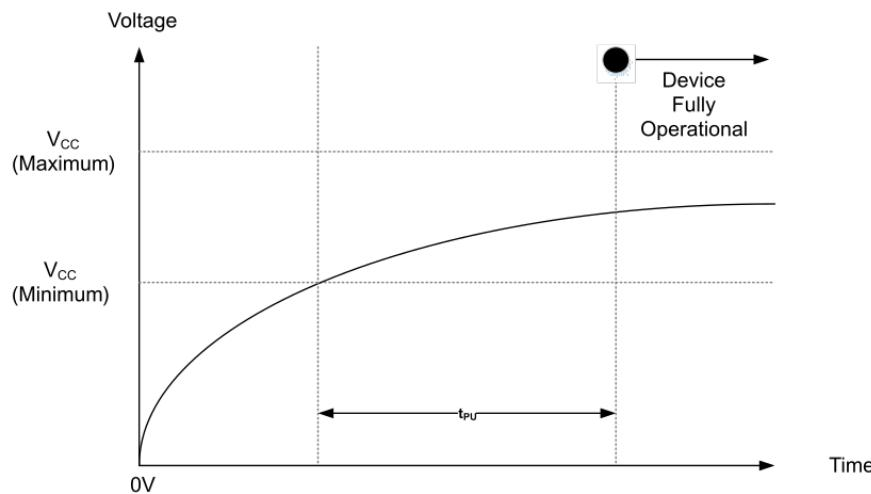

Figure 5: Power-Up Behavior
- The device must not be selected at power-up (a 10KΩ pull-up Resistor to VCCIO on E# is recommended). Then a further delay of tPU (Figure 5) until VCC reaches VCC(minimum) .